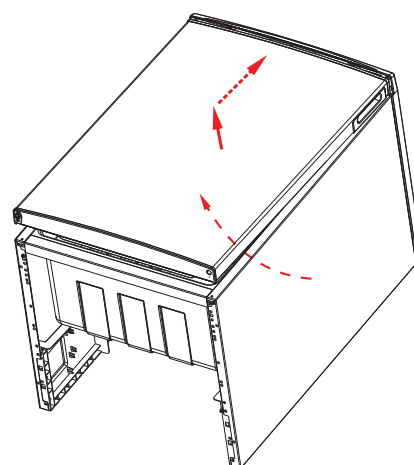

Fig. 17
- ▶ Refit the refrigerator door on the refrigerator by sliding the refrigerator door upwards at a slight angle from below (Fig. 17). Ensure that the hinge pin of the upper hinge is seated in the hinge bushing on the top of the refrigerator door and that the seal is properly flush with the edge of the housing.